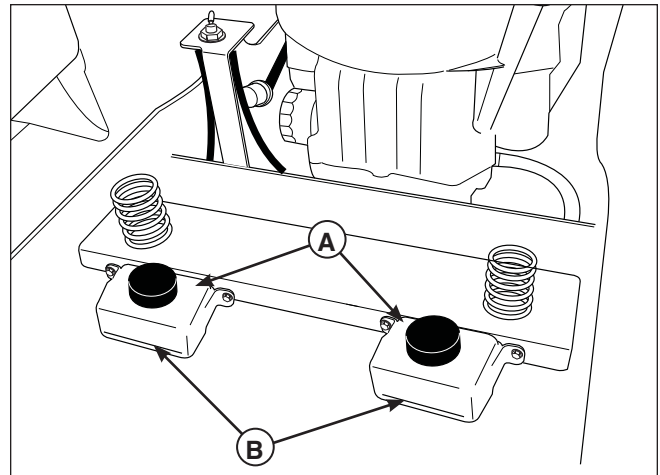

Figure 24. Checking Transmission Oil Level
1. Check the oil level when the unit is cold. Locate the transmission oil reservoirs (A, Figure 24) located on the seat support plate. The oil should be up to the "FULL COLD" mark (B). If the oil is below this level, proceed to step 2.
3. Add oil up to the "FULL COLD" mark (B).